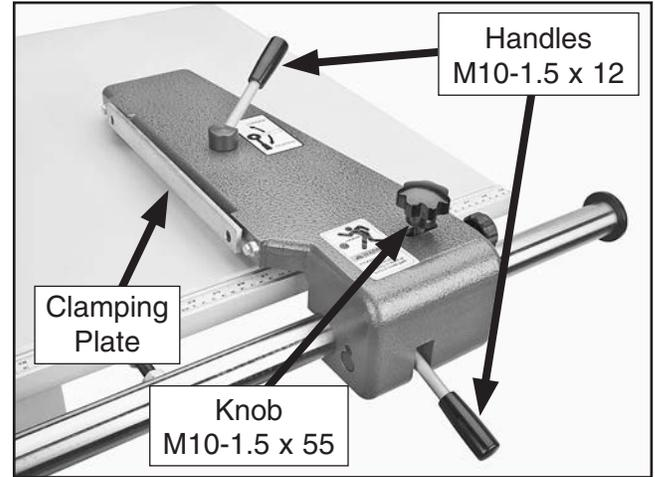

Figure 15. Rip fence handles.
9. Slide the rip fence base onto the round rail. Thread the handles and knob into the rip fence base, where shown in **Figure 15**.